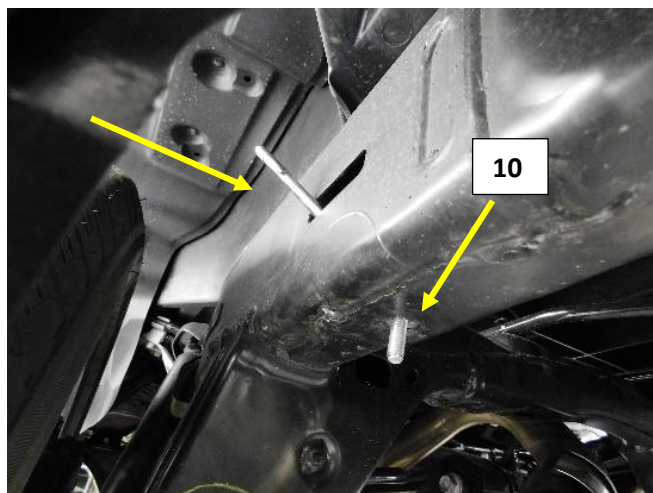

Figure.9
3. Install a supplied flat washer (13) on to the Supplied 5/16 X 1" bolt (10).
4. Install the bolt and washer through the access hole and into the square hole in the bottom of the frame rail just below the access hole. This is best accomplished with a small telescoping magnet or magnetic screwdriver that will hold the bolt and washer as they are installed into the frame rail. **Fig.9**